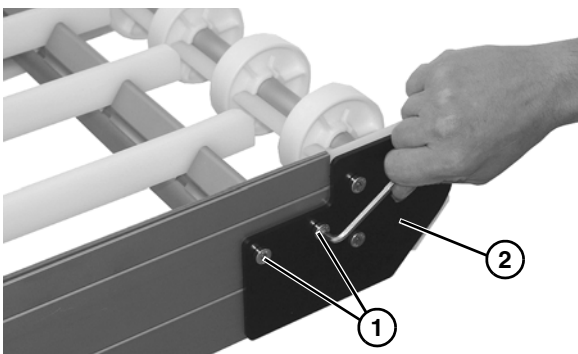

Figure 55
2. On one side of conveyor, remove the two socket head screws (Figure 55, item 1).